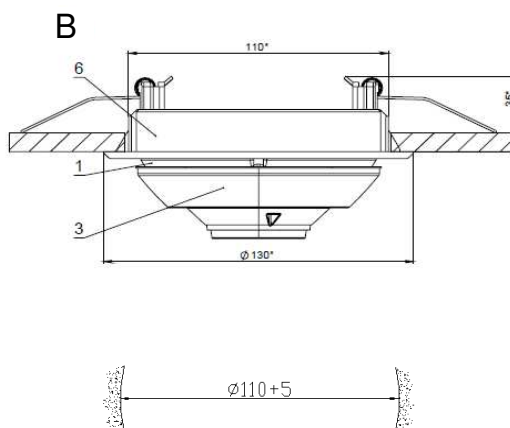

Figure 3
5.2 To install the detector onto fire resistant tiles of suspended ceiling, use MK-2 or MK-3 mounting kit for attaching the detector base (Figure 3, Position 1). Make a mounting hole for the mounting kit according to the marking (Figure 3).
5.3 Until installation works are completed, the sensing chamber of the detector should be covered by the protection cover provided (Figure 3, Position 3).